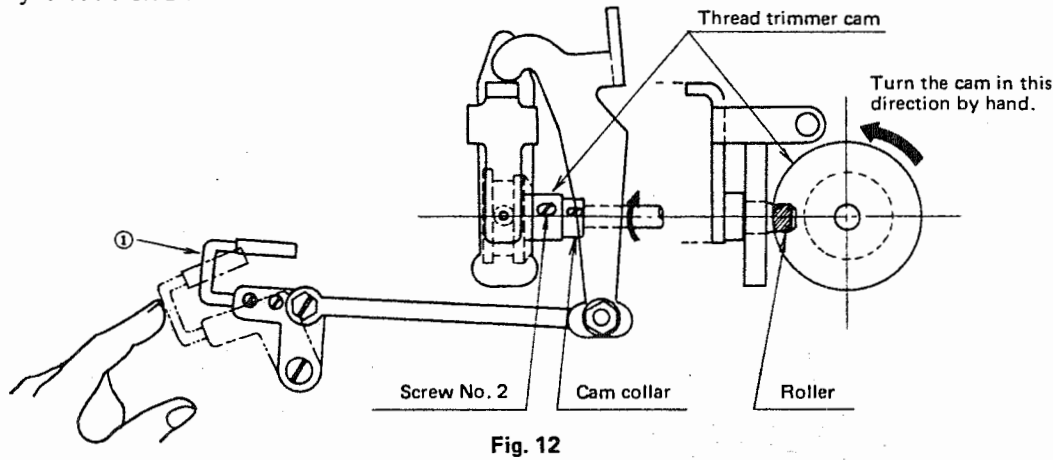
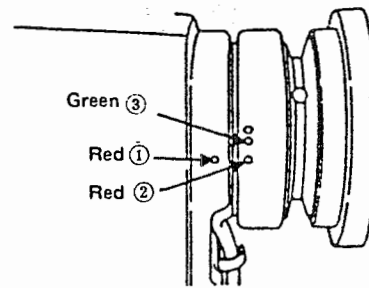

Fig. 12
Fig. 13
Tilt the machine head, manually turn the handwheel until the thread take-up lever almost reaches its highest position, and press thread take-up picker ① in Fig. 12 to the right by finger. This causes the cam roller to fit in the groove of the thread trimmer cam. With this condition maintained, turn the handwheel in the direction opposite to the normal rotational direction, and you will find a position in which the handwheel no longer turns. Then, adjust the cam timing so that marker dot ① (Fig. 13) on the machine arm is aligned with marker dot ② (Fig. 13) on handwheel as shown in Fig. 13. This provides the proper cam timing for cotton and synthetic threads.
Loosen screw No. 1 first, and then screw No. 2 (Fig. 12), and align red marker dot ② on the handwheel with red marker dot ① on the machine arm.
Fit the cam roller in the groove of the cam while pressing thread take-up picker ① (Fig. 12) to the right. Manually turn only the cam (do not turn the hook driving shaft) in the direction opposite from the normal rotation of the hook driving shaft (see the arrow in Fig. 12) until a position in which the cam goes no further is reached. In
this position, press the cam against the thrust collar of the thread trimmer cam (Fig. 12), and retighten the screw No. 2 first and then the screw No. 1. If the cam collar has not been moved, press the thread trimmer cam against the cam collar, and retighten the screw No. 2 first and then the screw No. 1.
- ① Align marker dot ① (Fig. 13) on the machine arm with green marker dot ③ (Fig. 13) on the handwheel.
- ② Use the soft start function (800 s.p.m.) for the first starting stitch.
- ⑥ Align red dot ② (Fig. 13) on the handwheel with red dot ① (Fig. 13) on the machine arm.
Check whether the tension disc No. 2 floats 0.5 to 1 mm (0.019" to 0.039") when thread take-up picker ① (Fig. 12) is pressed to the right with the thread take-up lever located slightly below its highest position and the presser foot lifted.